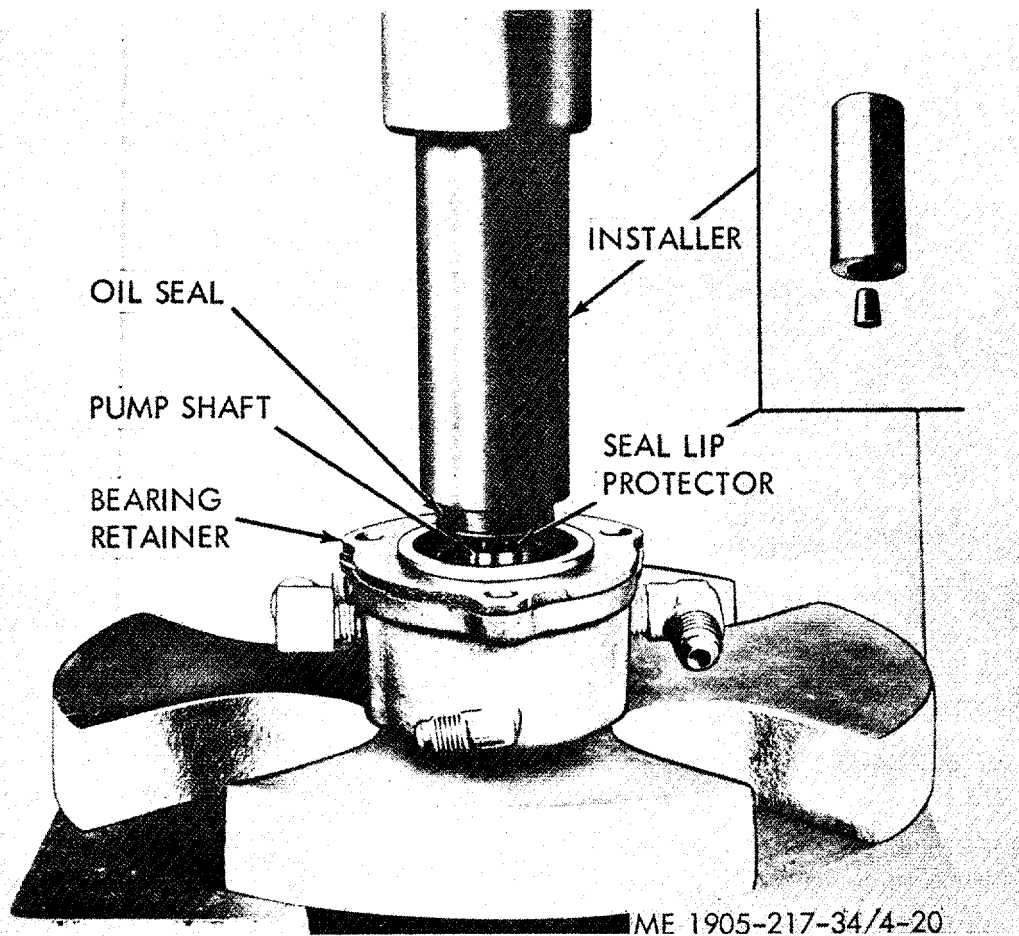

Figure 4-20. Installing shaft seal.
- (5) Reassemble the washer (40) over the pressure relief piston (35), insert the compression spring (34) and secure it in place with the plug (33). Use sealing compound sparingly on the threads of the plug.
- (6) Insert the baffle (26), check valve assembly (with the spring end facing out) and the baffle (29) into the pump body. Screw the check valve retainer (30) into the body, against the baffle, and tighten it to 120-140 in-lb torque. Place the spacer (31) in the body on top of the check valve retainer (30) and install pump outlet elbow (32), using sealing compound on the threads. Do not apply sealant on the last thread nearest the open end of the elbow.
- (7) Insert the baffle (23) and check valve assembly (with the spring end of the assembly in first) into the pump body. Screw the check valve retainer (19) into the body against the check valve cage (20) and tighten it to 120-140 in-lb torque. Install the pump inlet elbow (18), using sealing compound on all of the threads except the last one nearest the open end of the elbow.
- (8) If the pump-to-reservoir return elbow (25) and plug (16) were removed, apply sealant to all except the first thread on the elbow and plug and reinstall them.
- (9) Assemble the pump piston (17) and retaining spring (37) in the pump body.
- (10) Install the bearing and shaft assembly in the pump body. Work the retaining spring (37) up on the bearing (9).
- (11) Affix a new gasket (6) to the pump body (24) and press the bearing retainer (41) by hand into the pump body.
- (12) Install a new oil seal (42) in the bearing retainer (41) as follows:
- (b) Place the seal lip protector tool J 7191- 3 over the shaft, lubricate the lip of the seal and slide the seal, lip side first, over the seal lip protector and down to the bearing retainer, (fig.4-20).